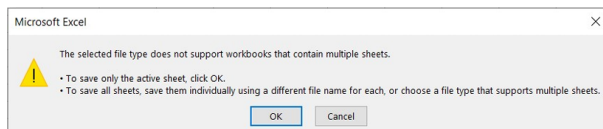

Figure 3-86 Saving the exposure curve file
14. When an excel warning pops up, press **OK**, see **Figure 3-86 below**.